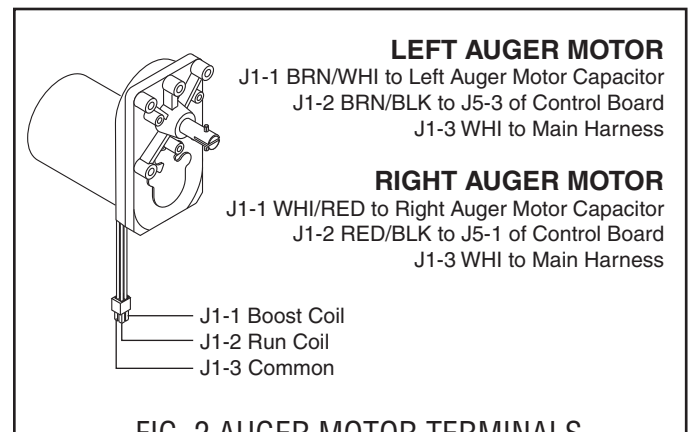

FIG. 2 AUGER MOTOR TERMINALS
10. Place seal on insertion tool #28395.0000 as shown in FIG 2. Make sure open face of seal is toward cooling drum.
10. Refer to Fig. 2 when reconnecting the wires.